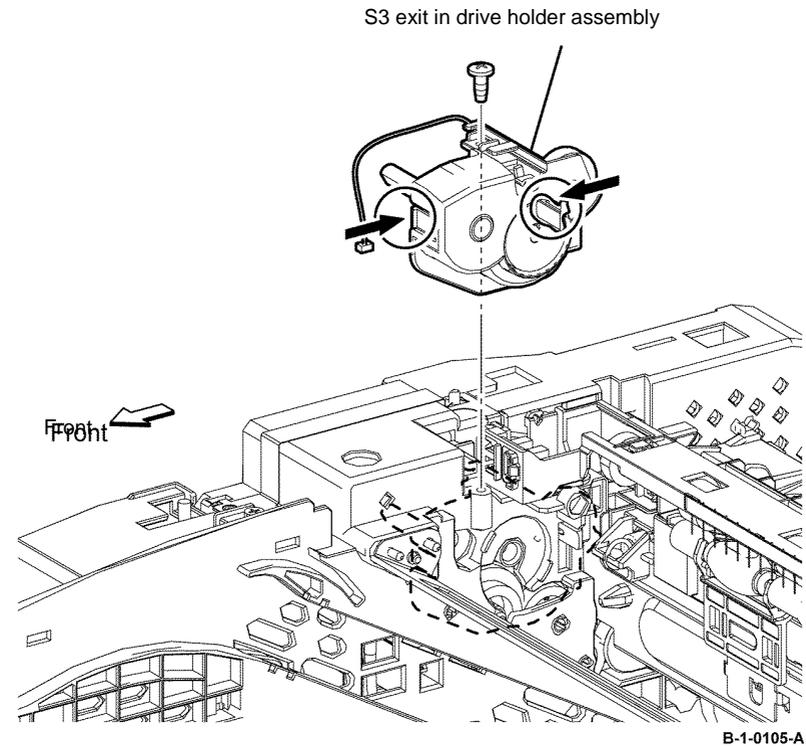

Figure 3 Exit in drive holder assembly removal
15. Remove one screw (silver, tapping, 6mm) that fixes the exit in drive holder assembly to the printer. Release the two hooks, release the harness of the T21 exit clutch assembly, then remove the exit in drive holder assembly from the printer, Figure 3.